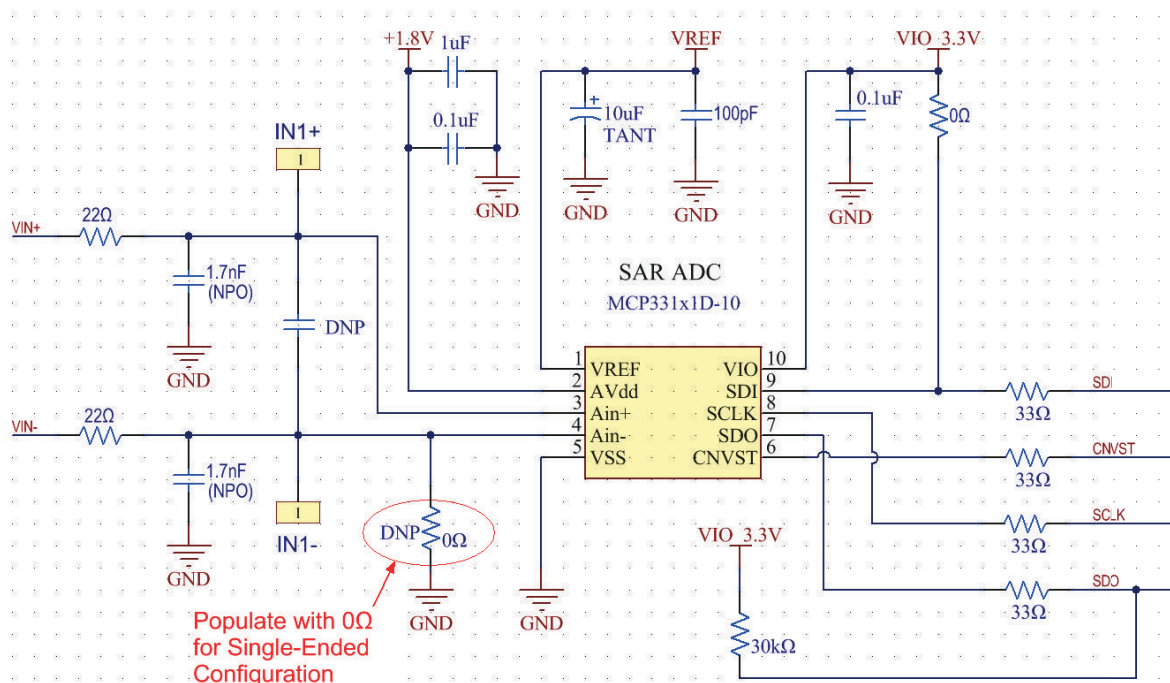

**FIGURE 7-3:** PCB Layout Example: Analog and Digital Ground Planes.
- Connect the analog and digital ground planes at a single point (away from the sensitive analog sections) with a  $0\Omega$  resistor or with a ferrite bead. See Figure 7-3 as an example of separated ground planes.
Figure 7-3 and Figure 7-4 show brief examples of the PCB layout. See more details of the schematics and PCB layout in the MCP331x1D-XX Evaluation Board User's Guide.